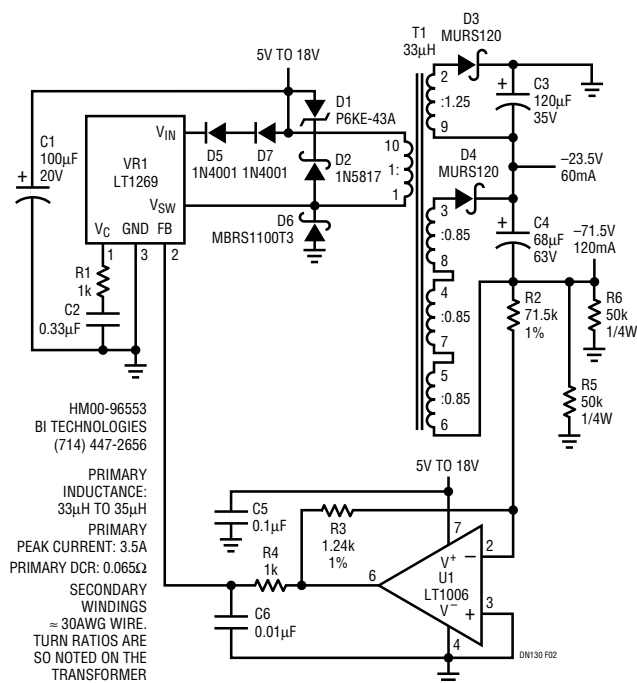

Figure 2
Figure 2 shows a current mode flyback power supply using the LT1269CQ device. This current mode device has a wide input voltage range, current limit protection and an onboard 60V, 0.20Ω bipolar switch. The input voltage range for the circuit is 5V to 18V. This design provides a wider input voltage range and greater output power than that of Figure 1. The output voltages are –23.5V at 60mA and –71.5V at 120mA (8.6W). This circuit is designed to power two SLIC devices. The circuit operation is identical to Figure 1, except for a larger switching regulator device (VR1) and a different transformer (T1). These changes allow for 5V operation and higher output power. This circuit is designed for full load on the –71V or –23.5V output. This accommodates the ringing on two SLICs or off hook on two SLICs. R5 and R6 are preload resistors for maintaining an accurate –23.5V output at full load with the –71V output at minimum load.
***Changes and Additions for Figure 2's Circuit**